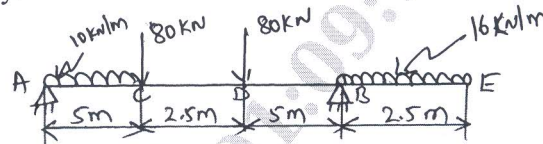

Fig.Q5(b)
b. Draw shear force and bending moment diagram for a beam shown in the Fig.Q5(b). Locate point of inflexion if any.